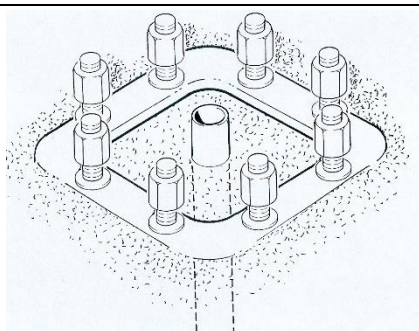

fig.23
4. When needed, insert a tube into the plinth through which the electrical cable which powers the crane can be passed (fig.23).